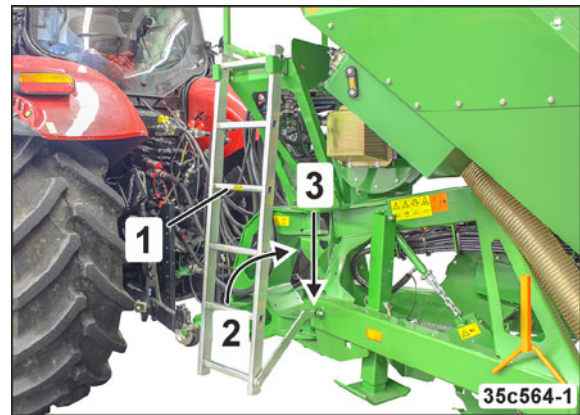

Fig. 246
15. Push up the ladder (Fig. 246) and lock it.